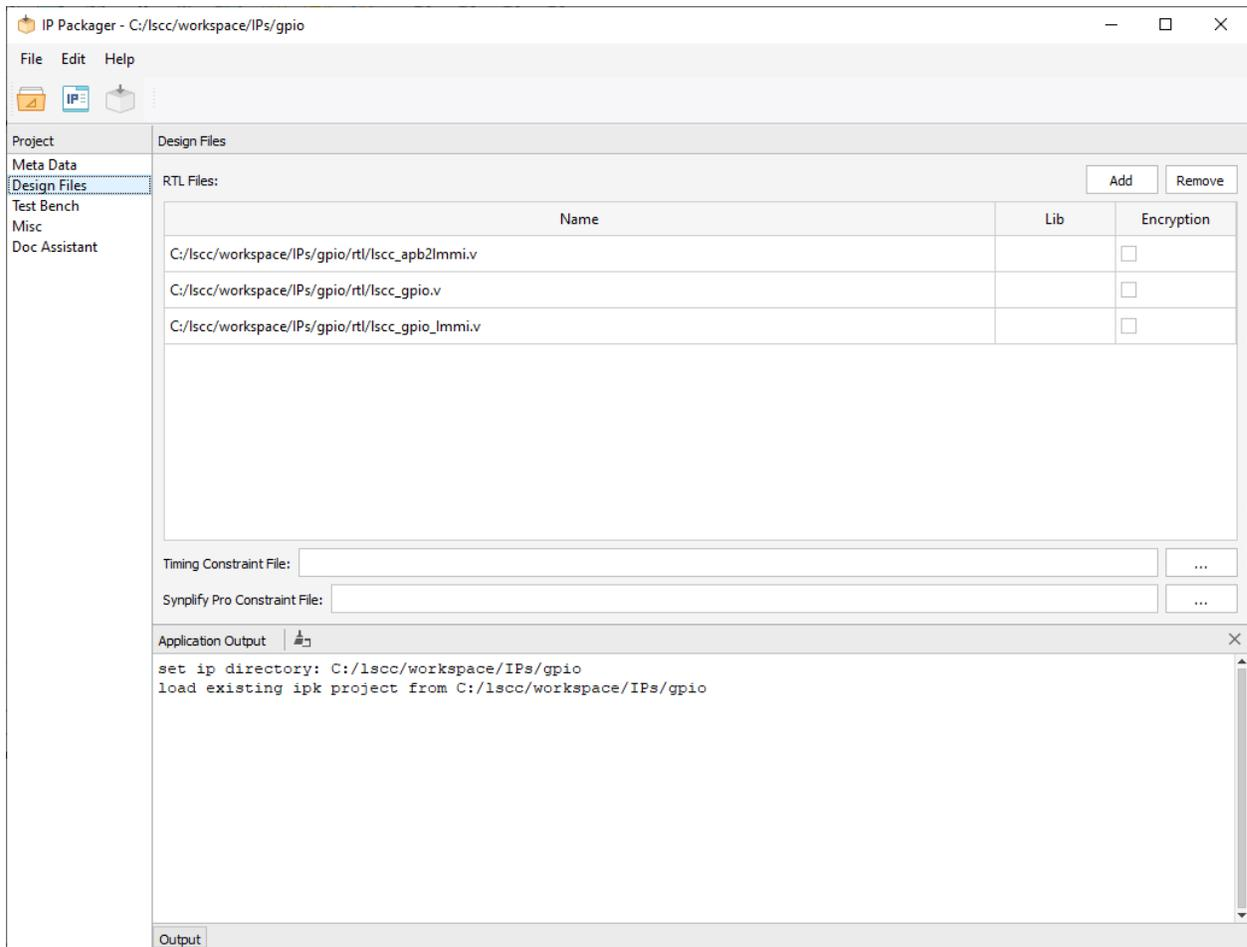

Figure 3.25. IP Packager with Design File Details
- From the IP Packager Project area, click **Design Files**. IP Packager GUI shows the Design Files information (Figure 3.25).